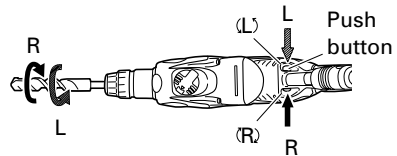

Fig. 6
**9. Confirm the direction of bit rotation (Fig. 6)**